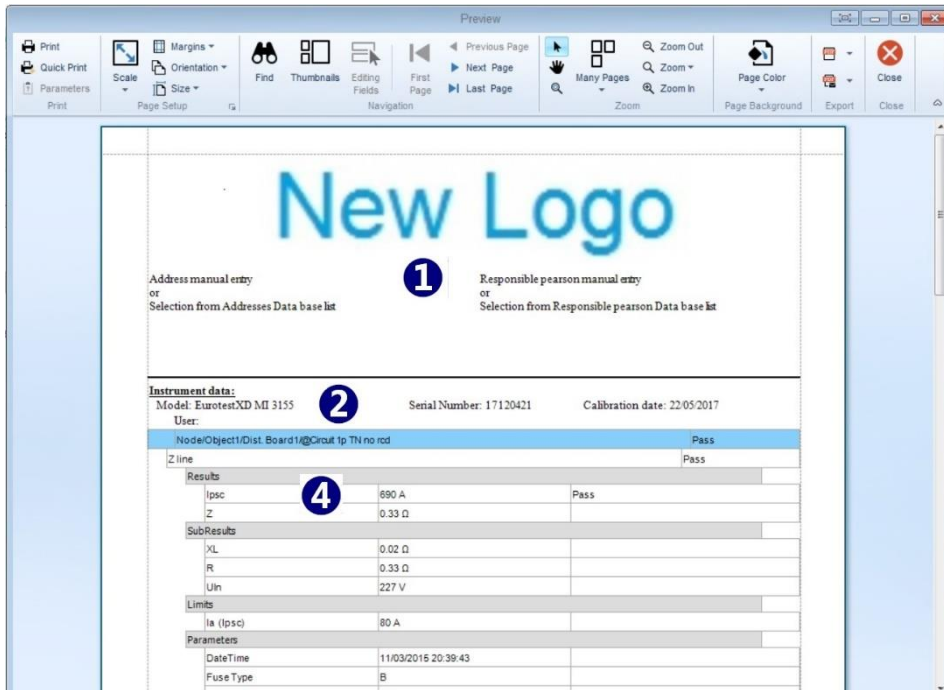
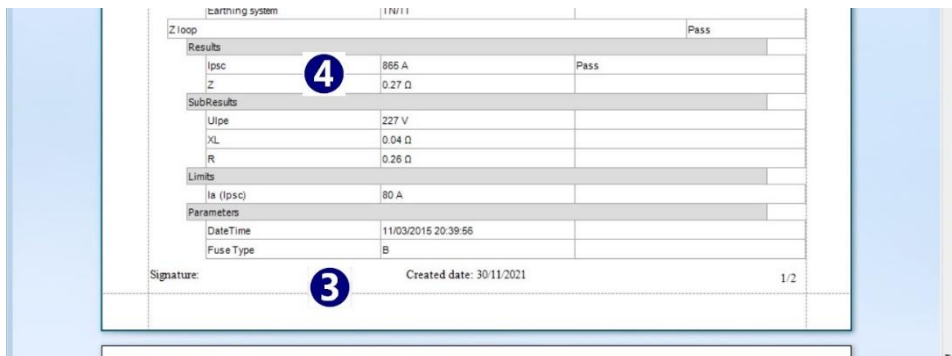

Figure 9.2
Figure 9.3: Print Results document format preview
- Clicking on  within the Tools group of the Home menu tab opens Test project Results document in Preview manager window, **Figure 9.2** and **Figure 9.3**.